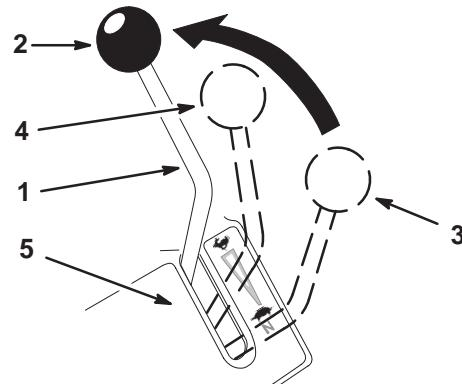

Figure 42
2. Move the speed control lever to the full forward position (Fig. 42).
2. Move the speed control lever to the neutral position (Fig. 42).
4. Place the left neutral lock in the full forward position (Fig. 52) and move the speed control lever to the neutral position (Fig. 42).
1. With the machine on jack stands, place the speed control lever in the neutral position (Fig. 42).